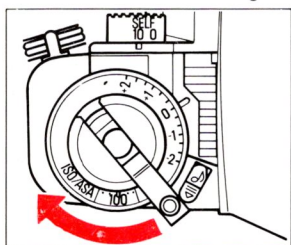

Fig. 31
2. Unfold the Film Rewind Crank and turn it in the arrow direction. When the film has been completely rewound, the tension of the Film Rewind Crank is suddenly released and turns freely. (Fig. 31)